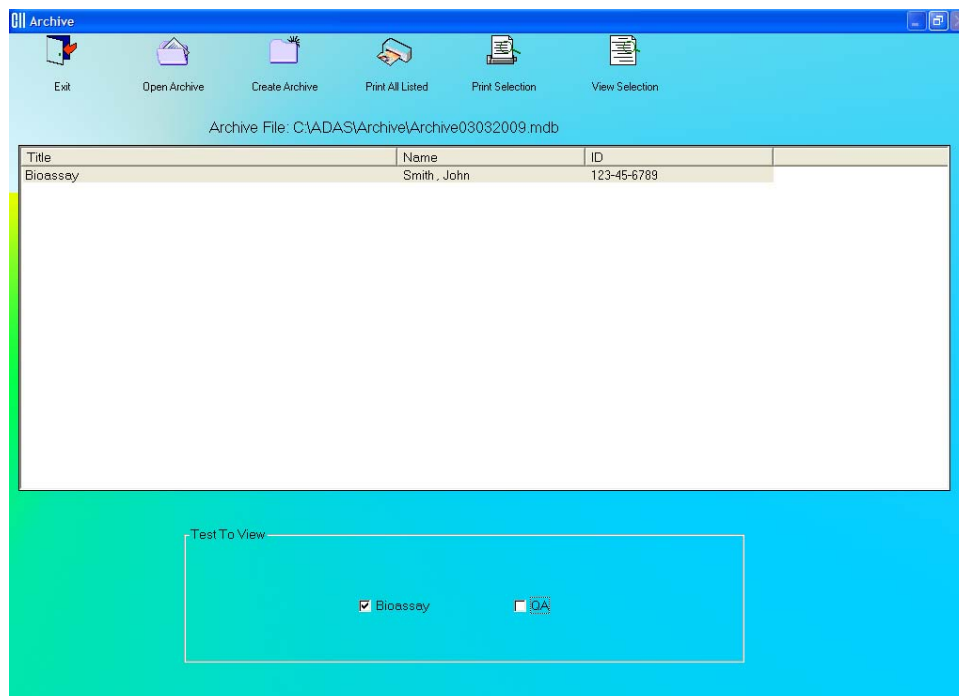

Figure 11-5
1. Click in the check box of one or more tests to select the ones you wish to view. The records from these tests will appear in the box. For example, in the Figure 11-5 below, only Bioassay tests are checked and therefore, only results from these tests appear in the box.